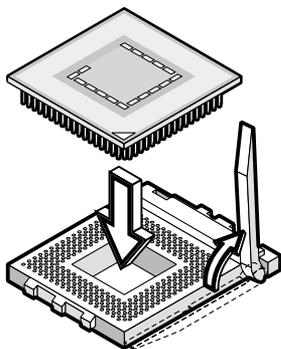

Figure 2-51 Installing a Processor Terminator Board
2. Insert the processor terminator board, making sure that pin 1 (indicated by a triangle at the corner of the processor terminator board) connects to hole 1 of the socket, as shown in Figure 2-51.